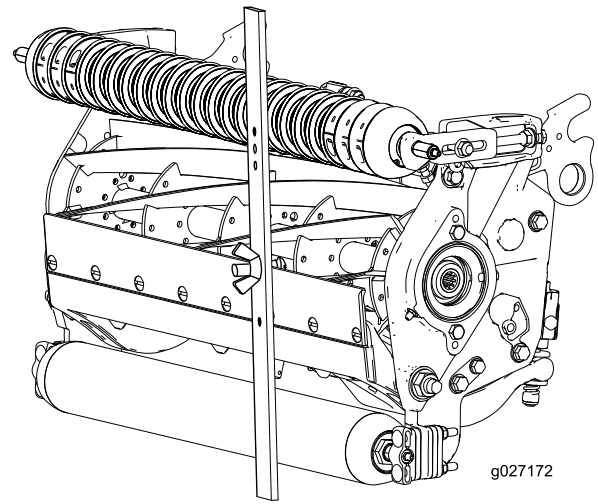

Figure 17
4. Hook the screw head on cutting edge of bedknife and rest rear end of bar on rear roller (Figure 17).
5. Rotate the adjusting screw until the front roller contacts the gauge bar (Figure 17).